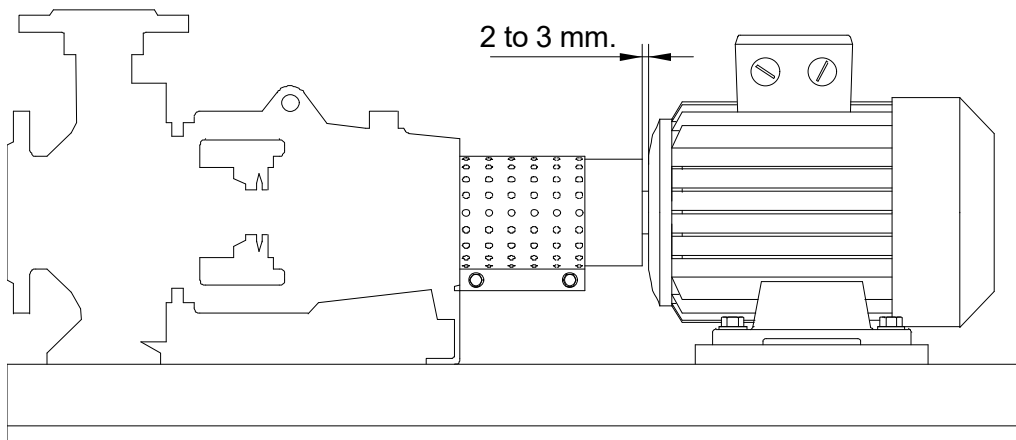

Fig. 10
- 11 - Install the coupling guard and its extension (if applicable) on the pump, secure the two locking bolts. The gap between motor and guard should not be greater than 2 to 3 mm. (see fig. 10).